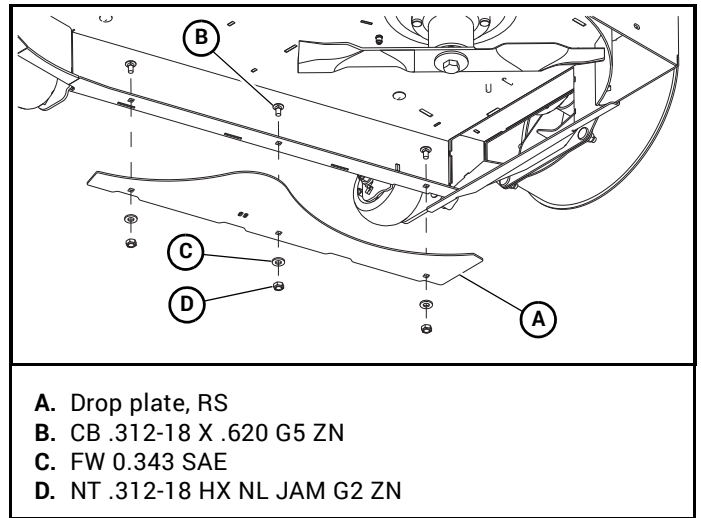

Figure 3-33
40. If mowing in thin grass or picking up leaves, install the appropriate drop plate for the deck as shown. The drop plate is not needed for normal operation. Figure 3-33